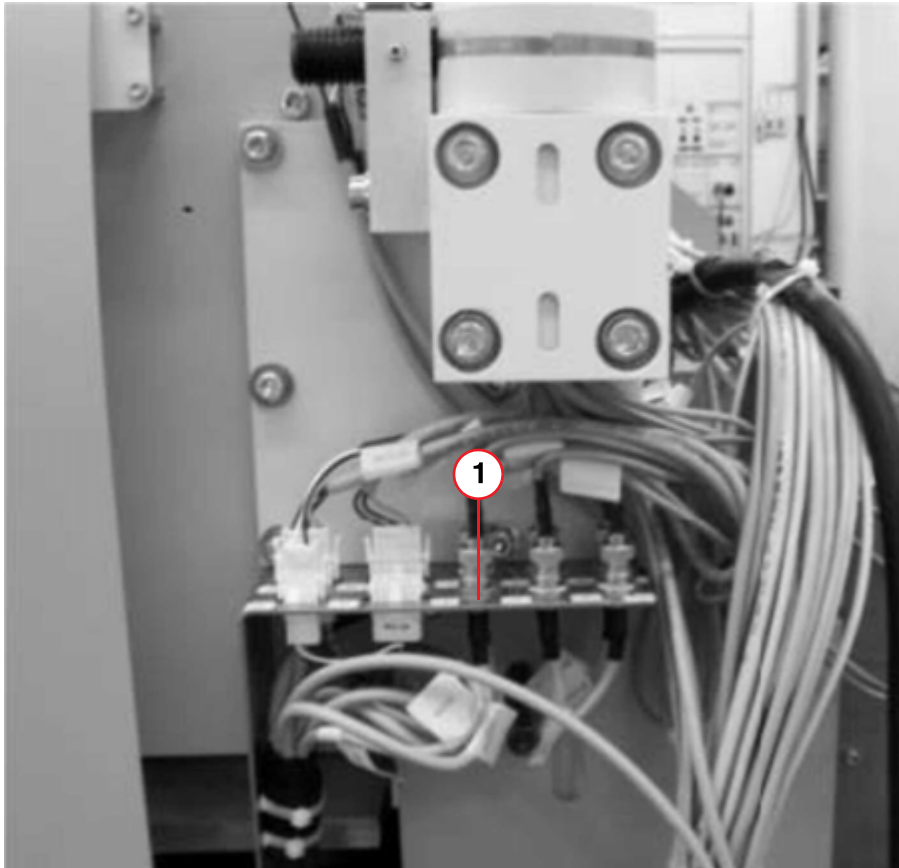

Fig. 41: Support arm connections
- Unscrew the partial harness W650 with the interface plate at the unit connection (1/ Fig. 41 / p. 65).